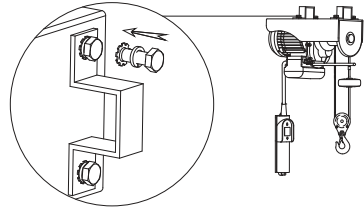

FIG.4
1. Locate the two brackets / fastening rings and the bolts / hex screws (Figure 4).